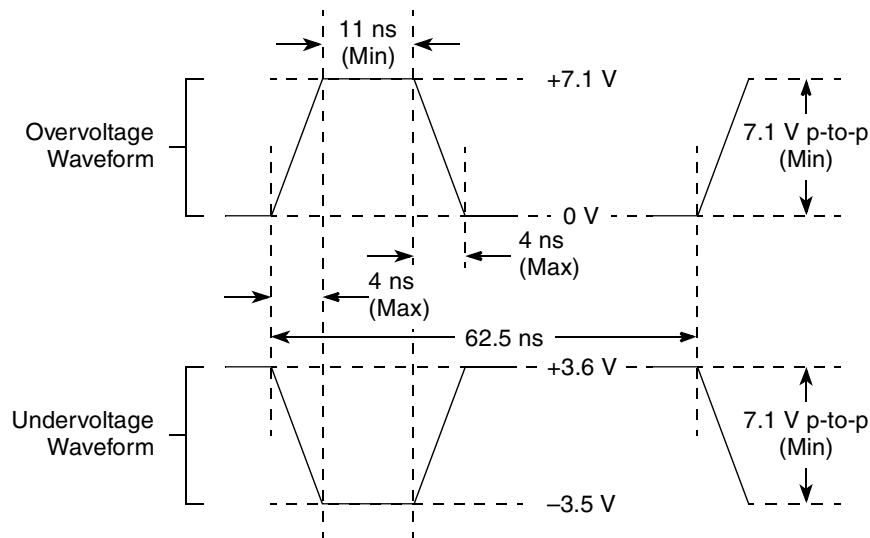

Figure 3. Maximum AC Waveforms on PCI interface for 3.3-V Signaling
6. OV_{IN} on the PCI interface may overshoot/undershoot according to the PCI Electrical Specification for 3.3-V operation, as shown in Figure 3.
Figure 3 shows the undershoot and overshoot voltage of the PCI interface of the device for the 3.3-V signals, respectively.